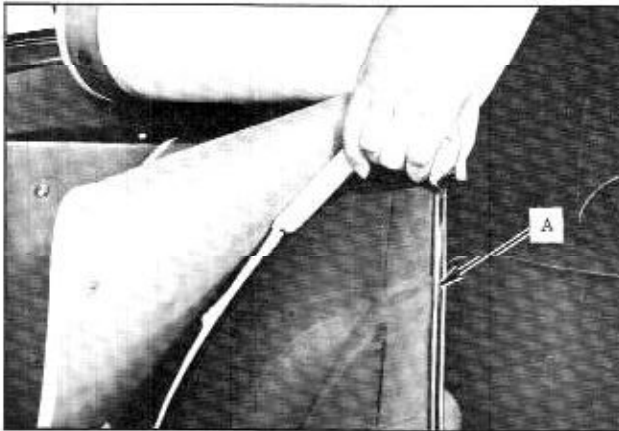

Fig. 15-70 Sliding Boot into Retainer
1. Slide front edge of boot into retainer "A" along seat back. (Fig. 15-70) Center boot for proper engagement of snap fasteners.